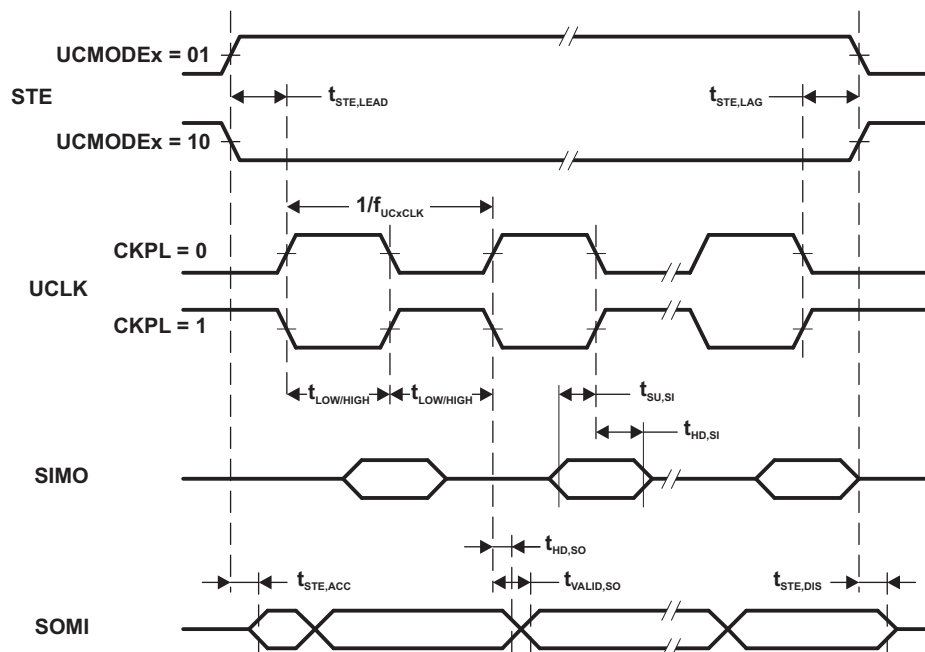
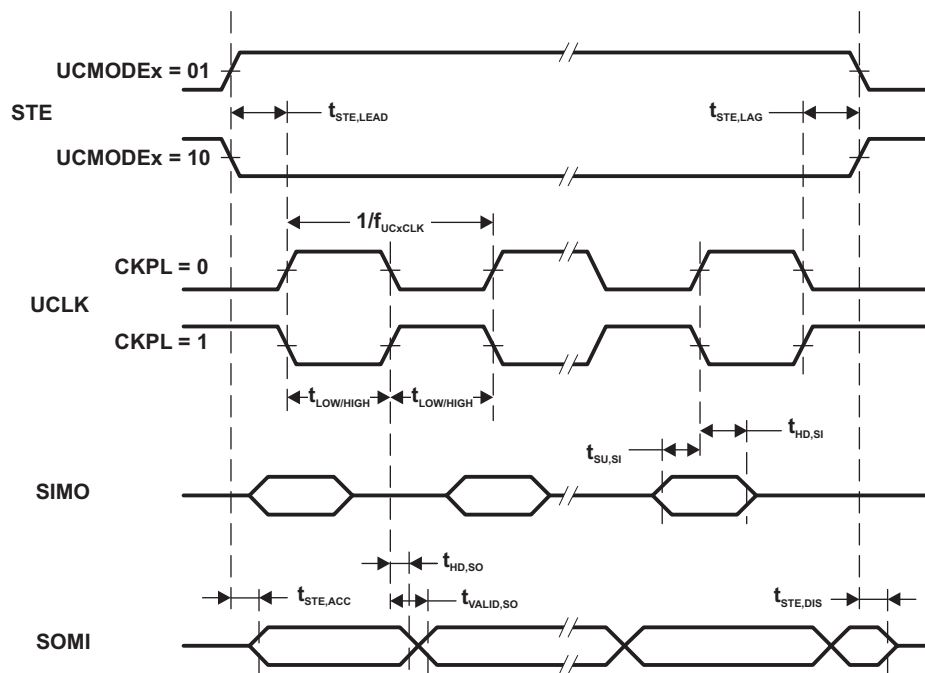

Figure 5-17. SPI Slave Mode, CKPH = 0
Figure 5-18. SPI Slave Mode, CKPH = 1
- (2) Specifies the time to drive the next valid data to the SOMI output after the output changing UCLK clock edge. Refer to the timing diagrams in Figure 5-17 and Figure 5-18.
- (3) Specifies how long data on the SOMI output is valid after the output changing UCLK clock edge. Refer to the timing diagrams in Figure 5-17 and Figure 5-18.